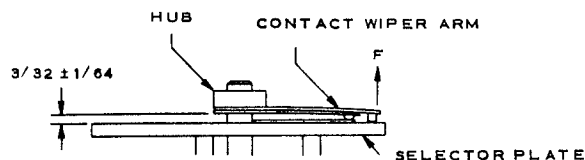

Figure 24. Wiper Arm Lateral Adjustment.
3. Inner blade of the wiper arm is set so that it is approximately $3/32$ " from the surface of the selector plate as shown in Figure 24. Force "F" of outer contact must be from $1\frac{3}{4}$ to $2\frac{3}{4}$ ounces.